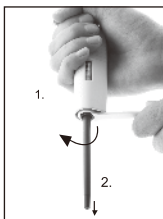
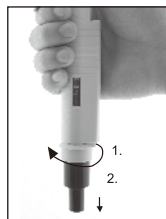

Fig. 9
Fig. 10
4. Place the wrench end of the opening tool over the tip cone, turning it anticlockwise. Do not use any other tools (Fig.9). The 5 ml tip cone is removed by turning it anticlockwise. Do not use any tools (Fig.10).